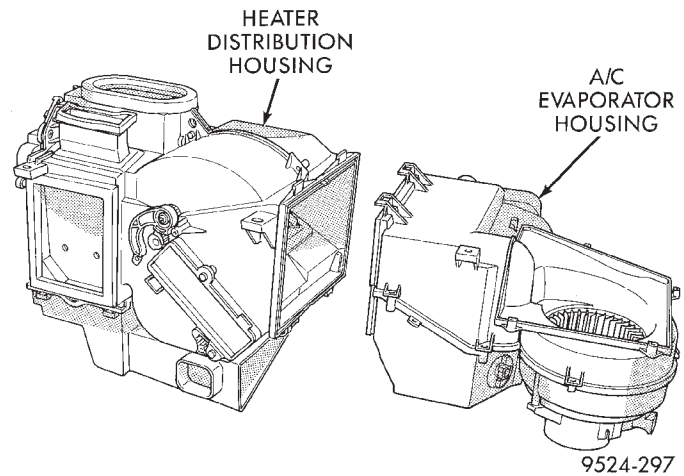

Fig. 88 Separate Housings
- (18) Separate evaporator housing from heater/distribution housing (Fig. 88).